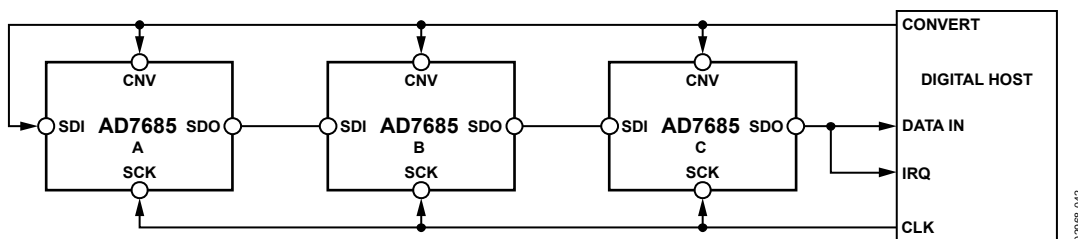
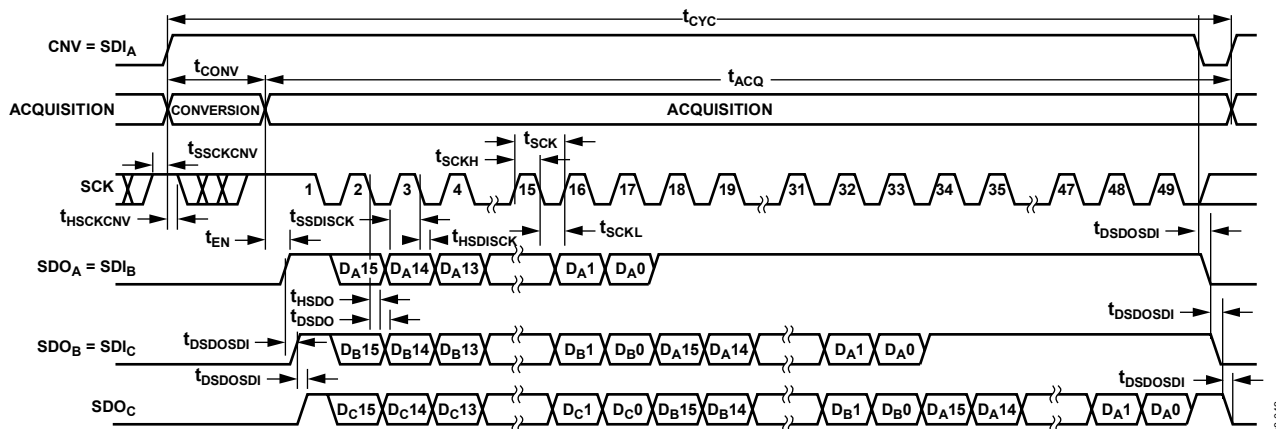

Figure 44. Chain Mode with BUSY Indicator Connection Diagram
Figure 45. Chain Mode with BUSY Indicator Serial Interface Timing
- In the chain mode, if SCK is high during the $\overline{\text{CNV}}$ rising edge (see Figure 45).
A connection diagram example using three AD7685s is shown in Figure 44, and the corresponding timing is given in Figure 45.
Figure 44) SDO is driven high. This transition on SDO can be used as a BUSY indicator to trigger the data readback controlled by the digital host. The AD7685 then enters the acquisition phase and powers down. The data bits stored in the internal shift register are then clocked out, MSB first, by subsequent SCK falling edges. For each ADC, SDI feeds the input of the internal shift register and is clocked by the SCK falling edge. Each ADC in the chain outputs its data MSB first, and $16 \times N + 1$ clocks are required to readback the N ADCs. Although the rising edge can be used to capture the data, a digital host also using the SCK falling edge allows a faster reading rate and, consequently, more AD7685s in the chain, provided the digital host has an acceptable hold time. For instance, with a 5 ns digital host setup time and 3 V interface, up to eight AD7685s running at a conversion rate of 220 kSPS can be daisy-chained to a single 3-wire port.